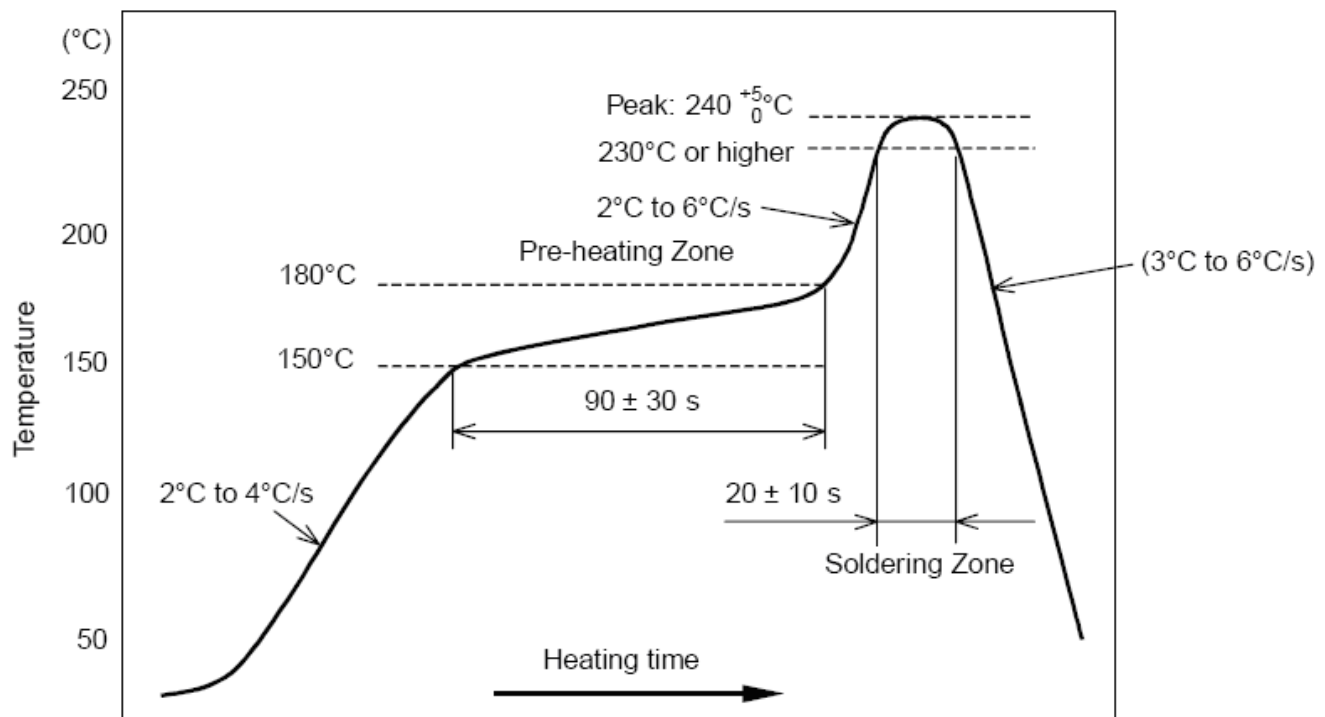

Figure 11-1. Temperature Profile for Evaluation of Solder Heat Resistance of a Component (at Solder Joint)
- Temperature measurement: Thermocouple d = 0.1 mm to 0.2 mm CA (K) or CC (T) at soldering portion or equivalent method
- Allowable reflow soldering times: 2 times based on the reflow soldering profile (see Figure 11-1)
- Temperature profile: Reflow soldering will be done according to the temperature profile (see Figure 11-1)